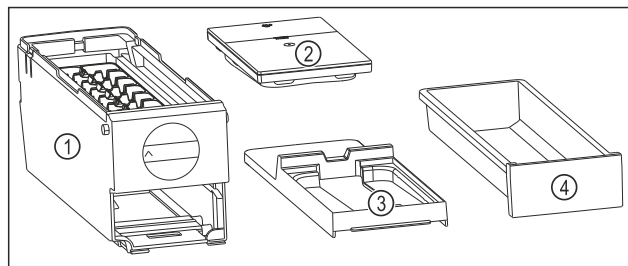

Fig. 146 Components of the EasyTwist-Ice
- EasyTwist-Ice is dismantled into four parts. (see Fig. 146)
- Only dismantle the EasyTwist-Ice into the components shown. (see Fig. 146)
- Clean the EasyTwist-Ice body Fig. 146 (1) as a whole.